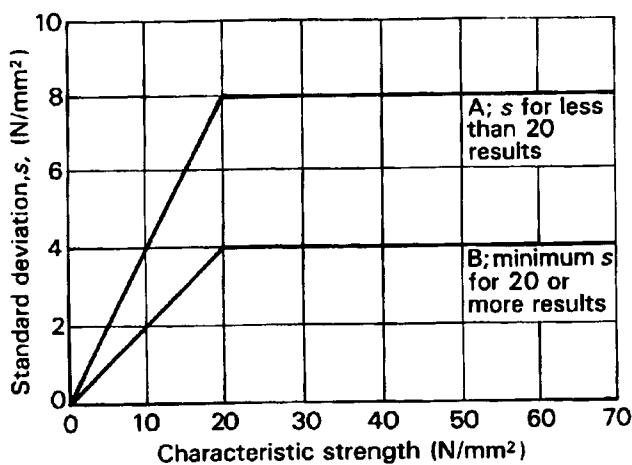

Figure 3
1.2 Standard deviation	Fig 3 N/mm ² or no data N/mm ²